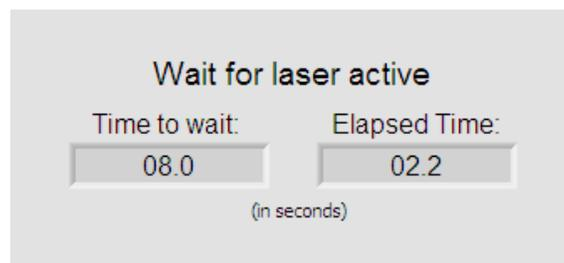

Figure 13 – Wait Timer Popup
10. Select the 'Laser Started' button on the display to initiate the test sequence. A timer popup (figure 13) will appear to let the operator know the wait period status.